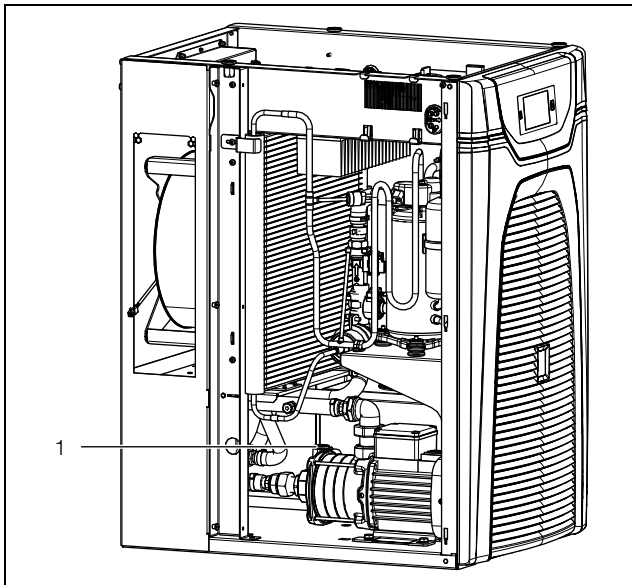

Fig. 39: Bleeding the cooling medium pump
- Bleed the cooling medium pump (with the system at a standstill) by loosening the vent screw (fig. 39, item 1).